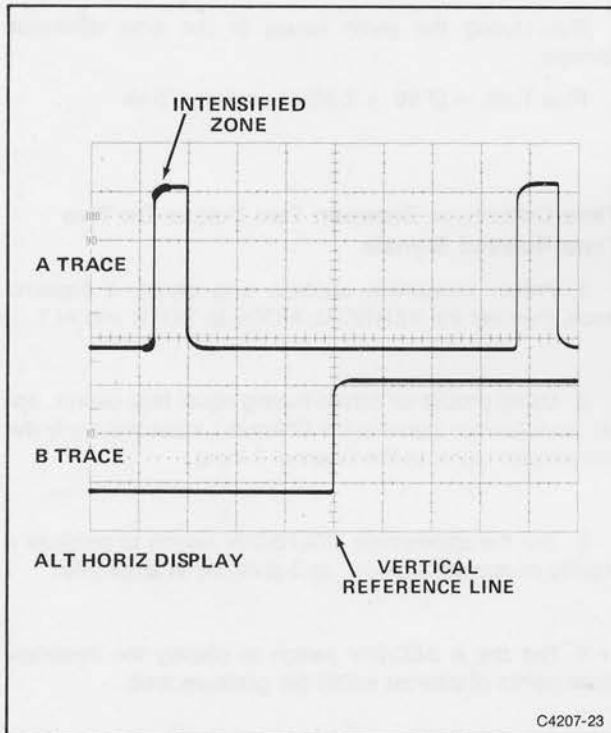

Figure 4-12. Time difference on single waveform.
5. Select ALT HORIZONTAL MODE and adjust both the appropriate vertical POSITION control and A/B SWP SEP control to display the A trace above the B trace (see Figure 4-12).
7. Adjust the B DELAY TIME POSITION control to move the intensified zone to the leading edge on the first point of interest (on the A trace); then fine adjust until the selected portion (on the B trace) is centered at any convenient vertical graticule line (see Figure 4-12).